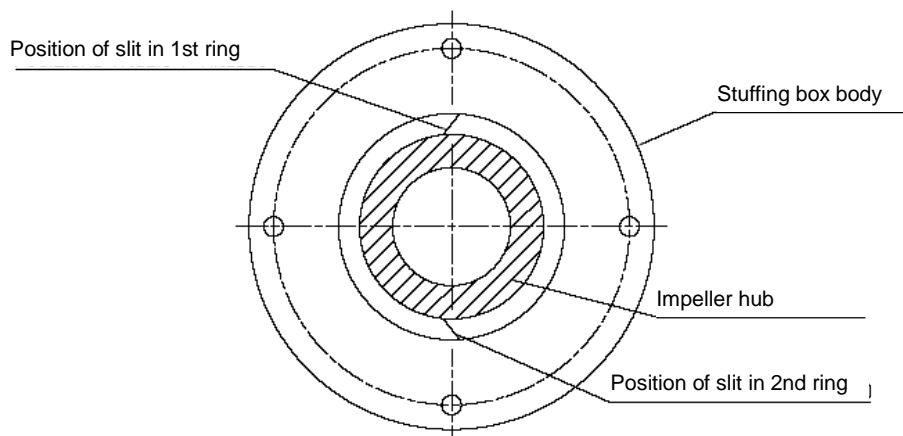

Fig. 10-16 Sealing ring slits
*Ensure that the slits in the rings are located in diametrically opposite positions (Fig. 10-16). If envisaged, fit the gas blowing ring between the sealing rings.*